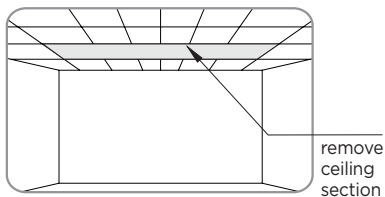
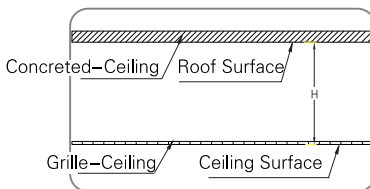

figure 1
figure 2
1. Choose a position according to the required space, then remove the required section of ceiling (figure 1). Please measure the distance H between roof and ceiling surface correctly (figure 2)